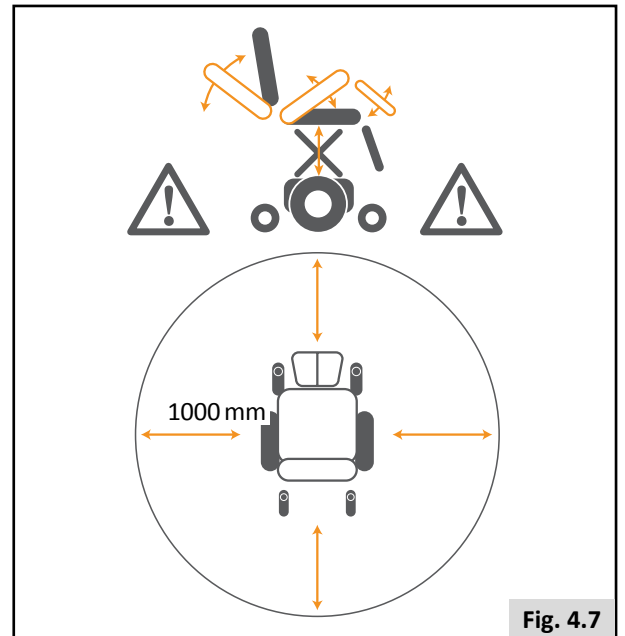

Fig. 4.7
- As with all moving parts be careful not to trap your fingers, (Fig.4.7).